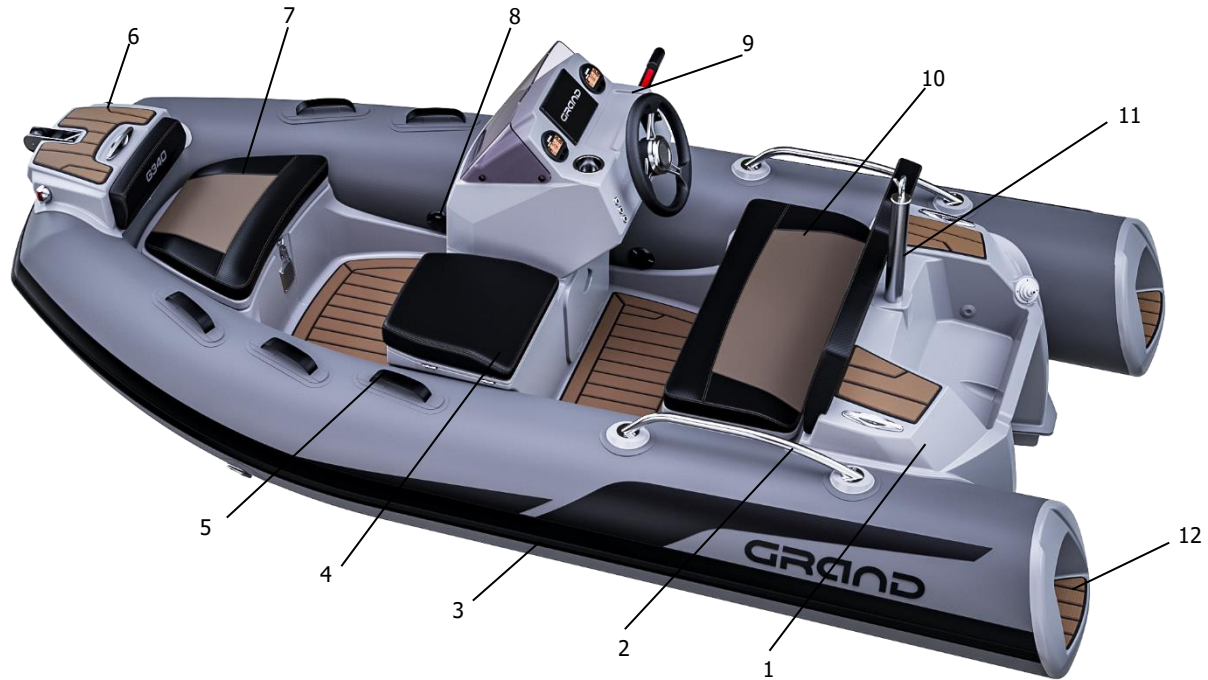

Fig. 44. General arrangement of a boat G340N.
**General arrangement of a boat** (see fig. 44 on the previous page):